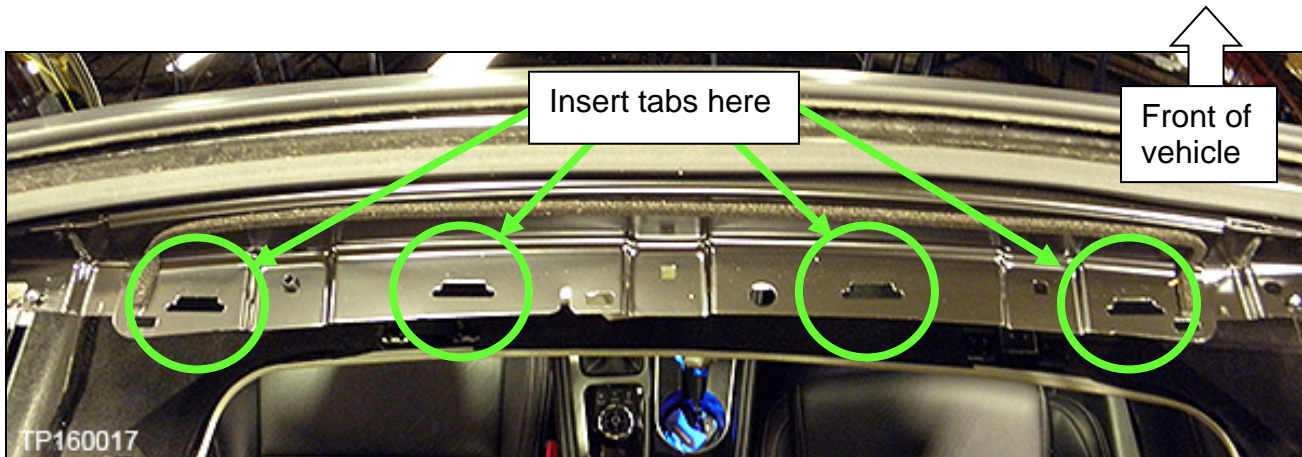

Figure 22
6. Insert the four tabs of the wind deflector into the Moonroof frame (Figure 22).